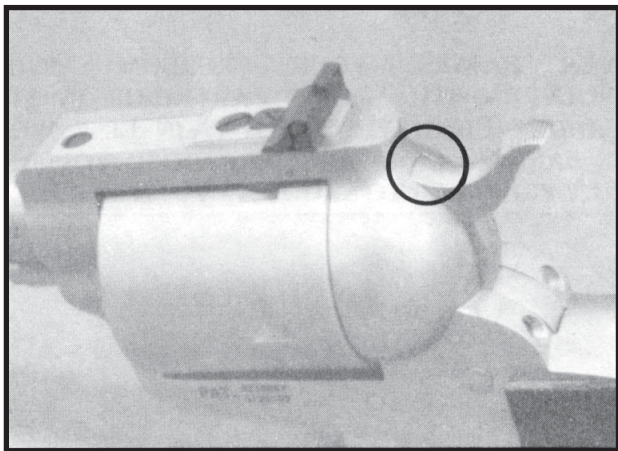

Figure 2 -- Fired Position
Your Freedom Arms® 5 Shot Revolver is a single-action revolver. This means that the hammer of the revolver must be drawn back or cocked with the thumb before each shot is fired. This revolver has 4 distinct hammer positions. (See Figures 2 through 5). Proper gun safety requires that you practice and become familiar with these hammer positions **BEFORE** loading your revolver.
FIRED POSITION - In this position, the hammer is all the way down against the receiver and firing pin. (See Figure 2) When the hammer is in this position, pulling the trigger has no effect. **CAUTION: IF THE HAMMER IS IN THE FIRED POSITION AND A LIVE CARTRIDGE IS IN LINE WITH THE BARREL AND FIRING PIN, THE REVOLVER WILL FIRE IF IT IS DROPPED, OR IF THE HAMMER IS OTHERWISE STRUCK, WITH SUFFICIENT FORCE.**
B. Pull the trigger, and while keeping the trigger pulled, slowly lower the hammer until it rests against the receiver. (See Figure 2)